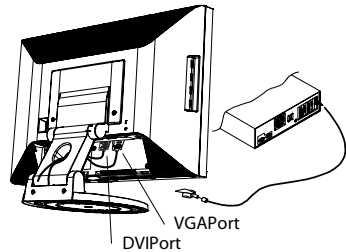

Figure 1-3
2. Connect one end of the signal cable to the LCD Monitor's VGA port or DVI port. (See Fig 1-3)